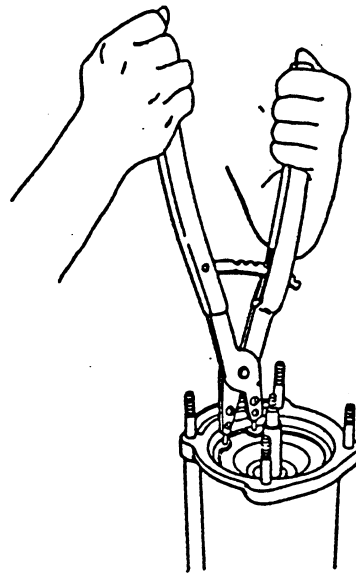

Figure 4. Removing Intermediate Bracket Retaining Ring
With the pump end disassembled and the motor cavity drained, use large snap-ring pliers to remove the retaining ring (8) securing the intermediate (10) in the motor housing (see Figure 4). If necessary, tap around the parting surfaces with a soft faced mallet to break the seal between the intermediate and motor housing. Remove the intermediate and discard the intermediate O-ring (9). Remove the motor bushing (51).